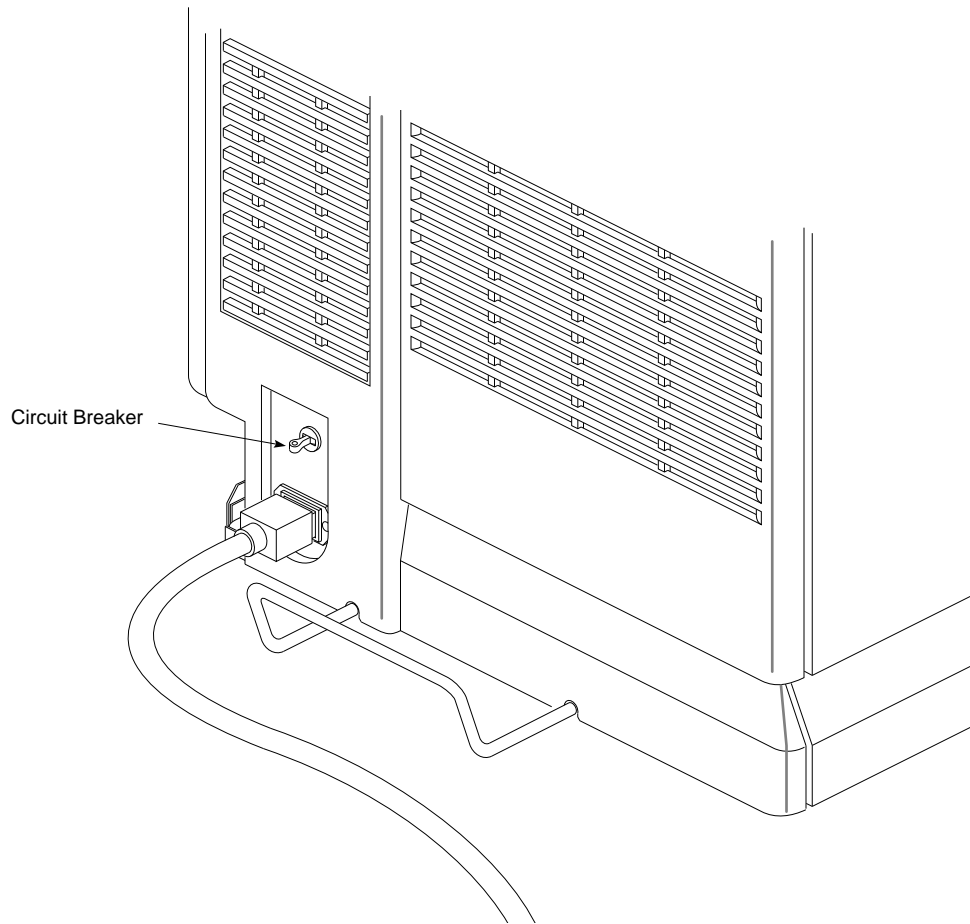

Figure 5-68 Powering Down the System
3. Power off the system. The switch is located in the rear of the chassis, near the AC power cord receptacle. See Figure 5-68. Disconnect the system from the power source.